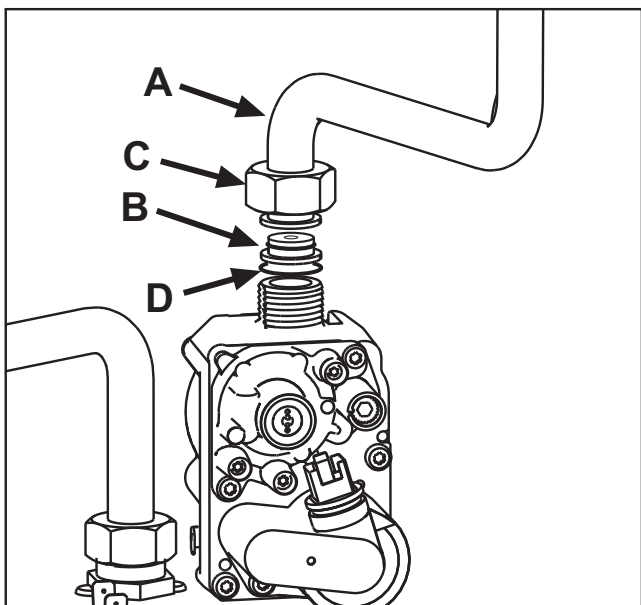

fig. 22
3. Unscrew ring **C** and remove gas pipe **A** from the gas valve (see fig. 22).
4. Replace nozzle **B** inserted in the gas pipe with that contained in the conversion kit, interposing seal **D** (see fig. 22).